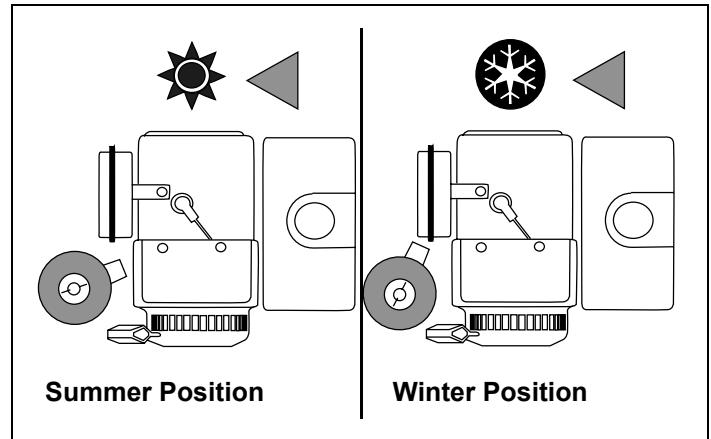
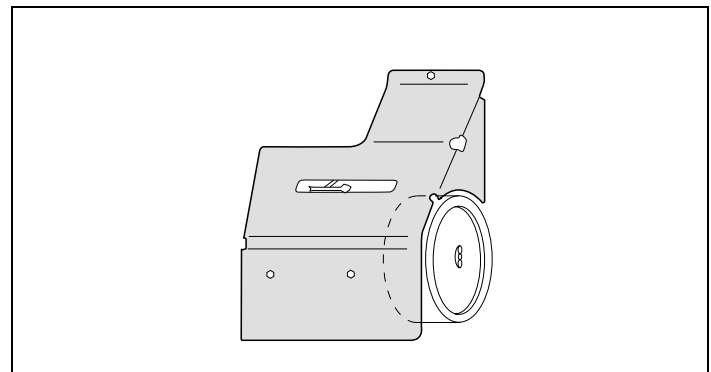

Figure 15. Climate Guard Air Cleaner
Figure 16. Climate Guard
Some engines are equipped with an optional Climate Guard Air Cleaner or Climate Guard. See Figure 15. See Figure 16.
*If the engine is not equipped with a CLIMATE GUARD air cleaner, a CLIMATE GUARD Conversion Kit is available at any Authorized Tecumseh Servicing Dealer. See Figure 15.*
*If the engine is equipped with a CLIMATE GUARD, no changes need to be made when changing from summer to winter operation. See Figure 16.*